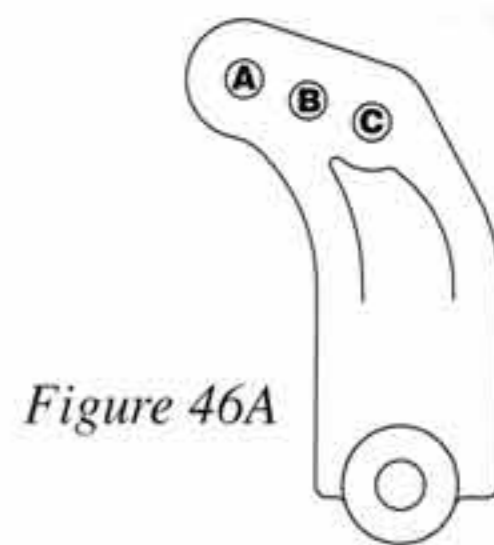

Figure 46A
❑ Step 16. Place a studed ball washer (20) over a 3/8" ball stud (4). Thread the ball stud (4) into the 'A' hole (shown in Figure 46A) in the rear hub (103) from the side opposite the letter ('L' and 'R') designating left and right. Place a "foam thing" (26) over the ball stud (4).